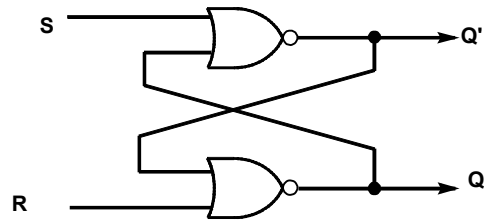

Figure 1
1. Connect the circuit shown in Figure 1. Use DS-1 for S, DS-2 for R, DI-1 for Q, and DI-2 for Q'.